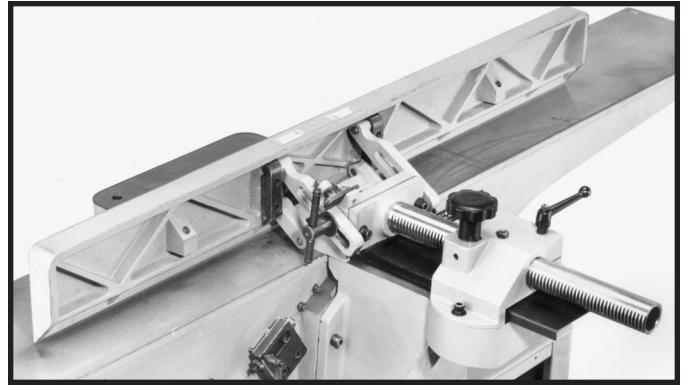

Fig. 18
2. Fig. 18 illustrates fence properly mounted.